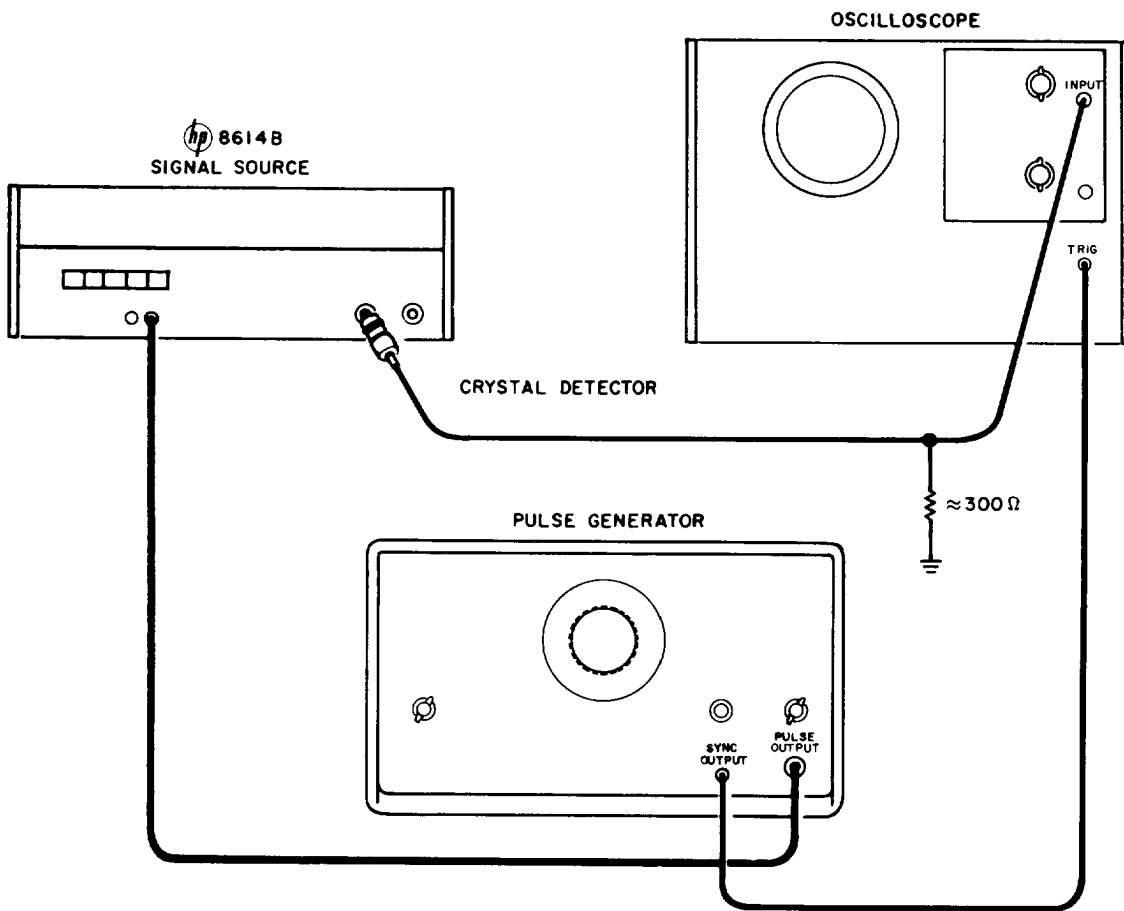

Figure 5-11. Pulse Modulation Adjust
- a. Connect instruments as shown in Figure 5-11.
- e. To check external synchronization, connect equipment as shown in Figure 5-11.